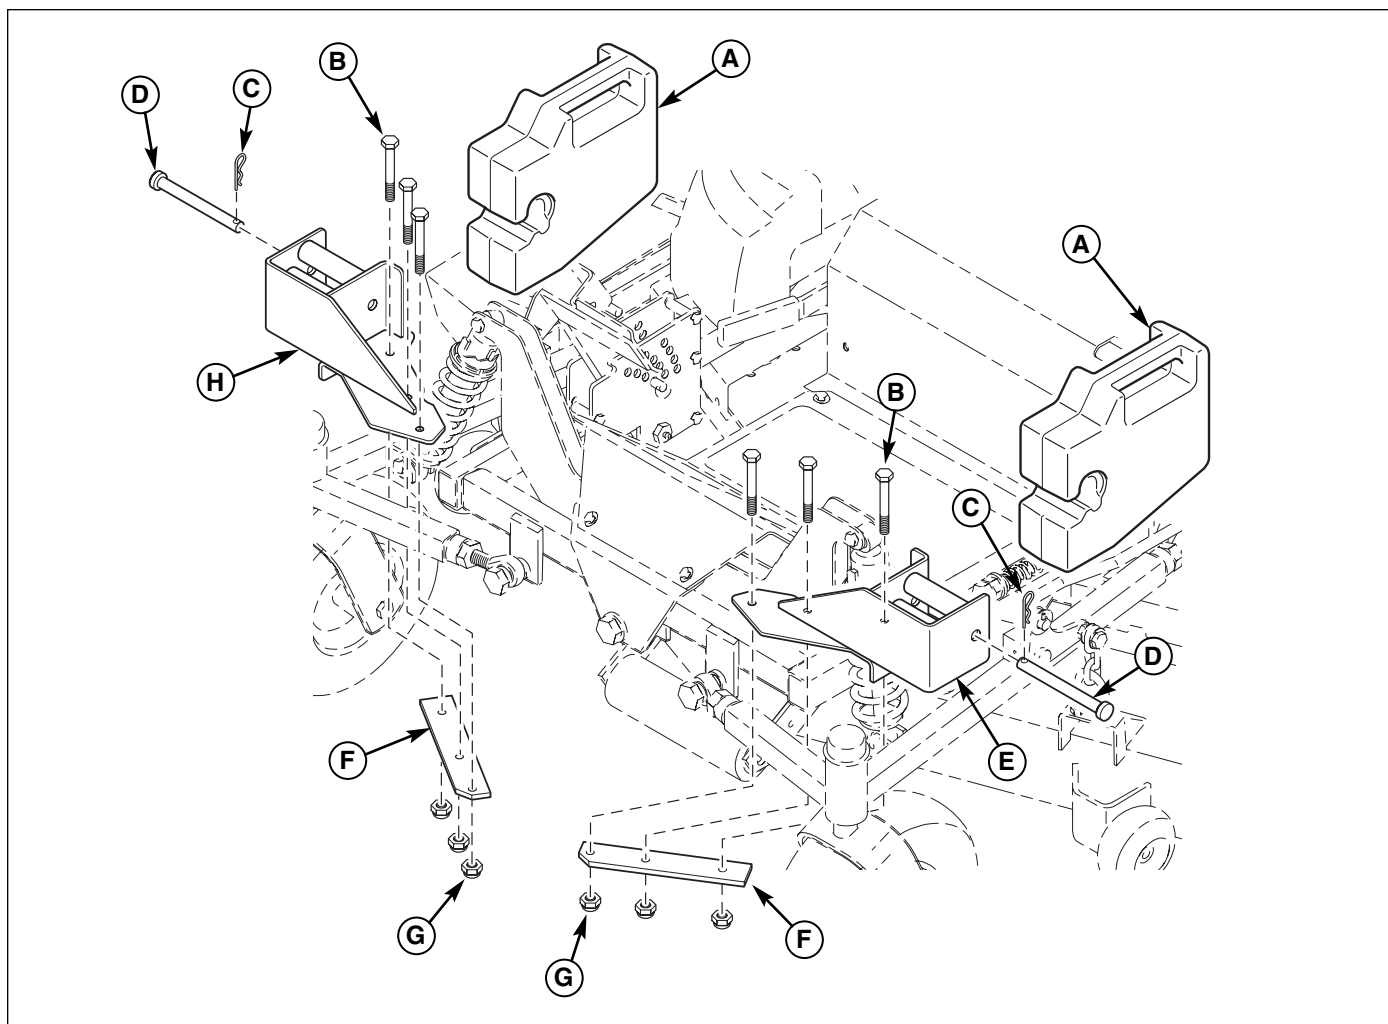

Figure 30. Install Weight Carriers
1. Install the left-hand and right-hand weight carriers (E & H, Figure 30), bar clamps (F) and fasten with the 5/16-18 x 2-1/2" bolts (B) and 5/16-18 nylon lock nuts (G). Make sure carriers are tight against the outside of the suspension arm and do not interfere with the shock/spring assembly. Tighten securely.
2. Install the counter weights (A) in the weight carrier and secure with the clevis pins (D) and hair pin clips (C).